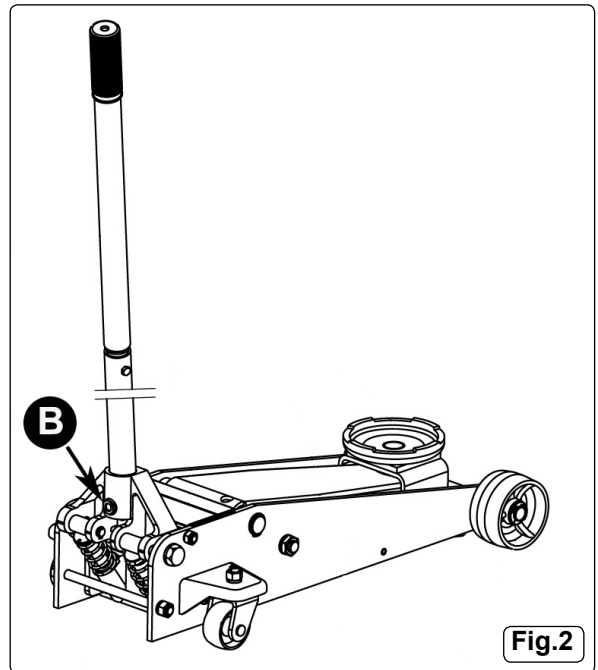

Fig.2
- 4.0.3. Undo the handle socket screw (B) until it no longer protrudes into the handle socket (Fig.2).